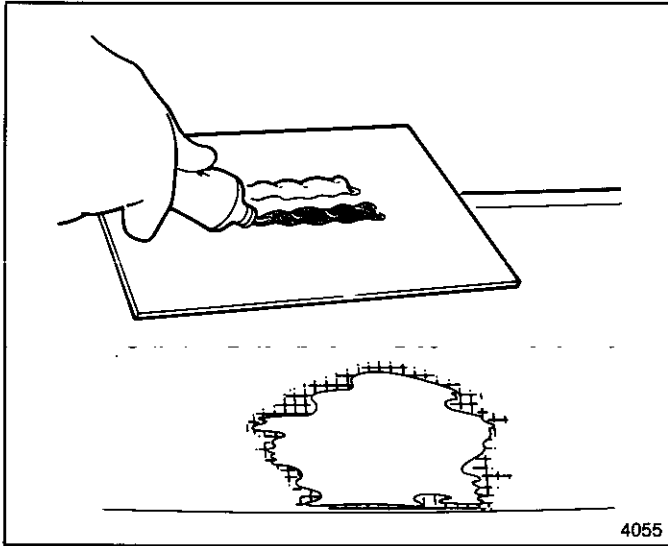

Fig. 1-14-Measuring Two-Component Repair Material
- c. On a clean flat surface of nonporous material such as metal, glass or plastic, deposit equal length beads of each component (3M Flexible Parts Repair Material #05900 or 3M Brand Structural Adhesive #08101 or equivalent). With a paddling motion, mix the two components until uniform color and consistency is achieved (Fig. 1-14).